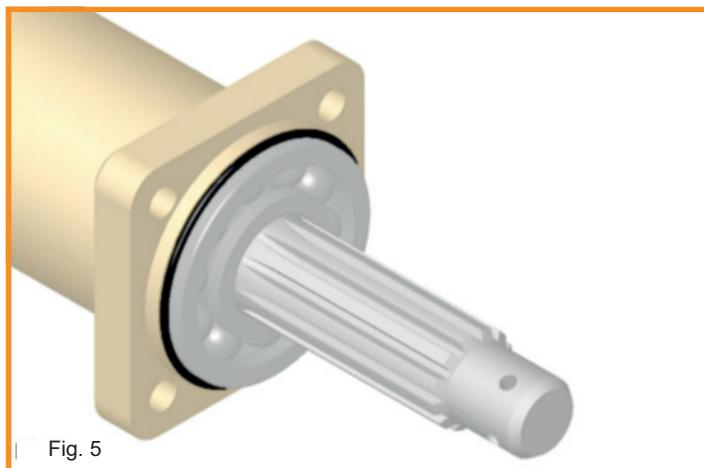

Fig. 5
- Install the O-ring (Pos:9, Fig.1) on the wheel bearing as shown in the picture Fig.5.